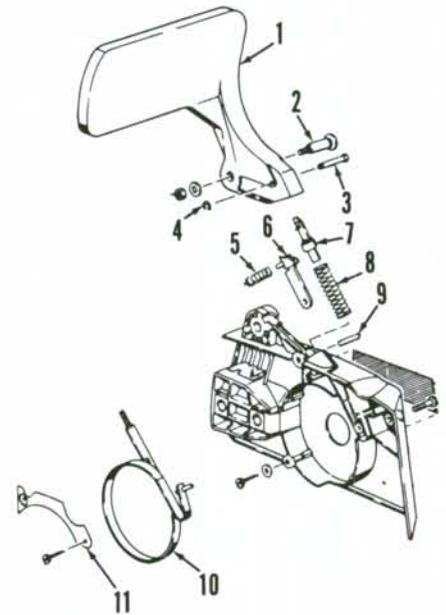

Fig. HL385—Exploded view of chain brake assembly.
CHAIN BRAKE. Refer to Fig. HL385 for an exploded view of the chain brake. The chain brake will be triggered when the operator's hand forces brake lever (1) forward. The chain brake